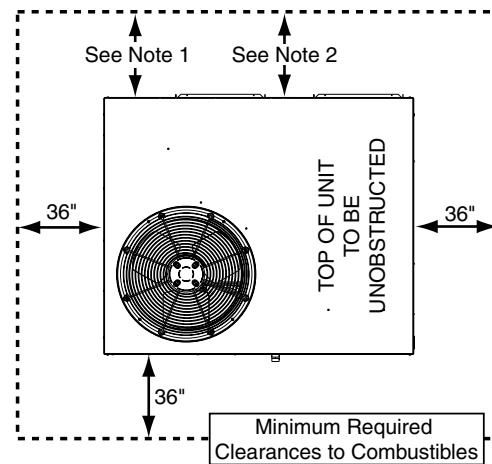

Figure 2. Clearance Requirements
- Provide adequate clearances around the air vent intake terminal. See Figure 2 (page 8).
- Sufficient clearance for unobstructed airflow through the outdoor coil must be maintained in order to achieve rated performance. See Figure 2 for minimum clearance requirements.